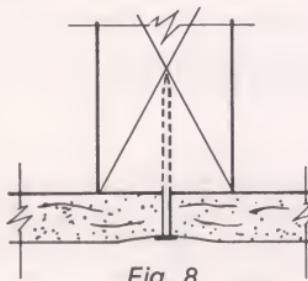

Fig. 8
**Prevention:** Correction of faulty framing (see Framing Problems, above) and properly driven nails produce tight attachment with slight uniform dimple (Fig. 8). Nailhead bears on paper and holds panel securely against framing member. Use proper fastener or adhesive application. USG Screws with specially contoured head are best fastener known to eliminate cutting and fracturing. If face paper becomes dry and brittle, its low moisture content may aggravate nail cutting. Raise moisture content of board and humidity in work area.